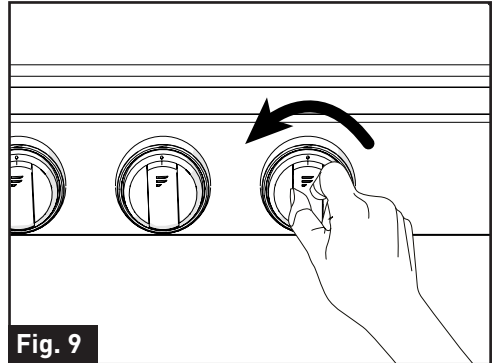

Fig. 9
3. Turn the appropriate burner knob counterclockwise to  position. (Fig. 9)